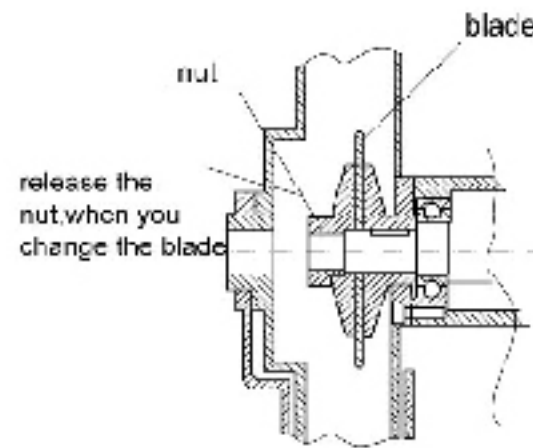

Fig.5.03B
4. Release the socket head screw of the saw spindle (fig. 5.03B) and remove the saw flange.